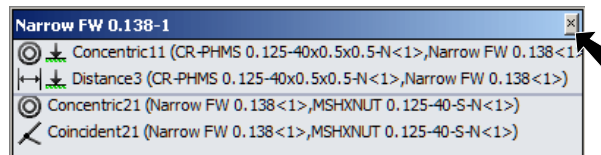

Fig. 22
Step 4. Click **Close**  in the View Mates window, **Fig. 22**.